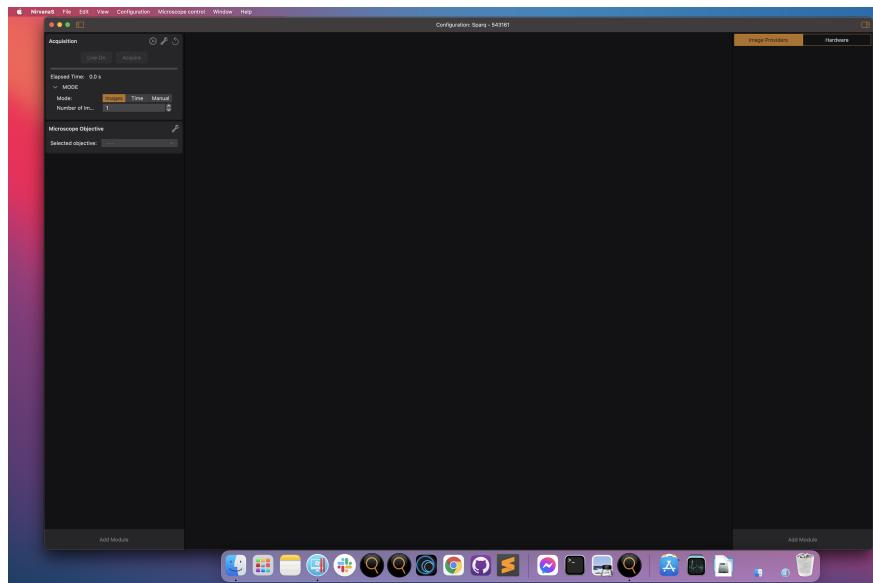

Figure 7
1. Open the Nirvana software on the main computer. Without any modules, the window appearing should look like figure 7.